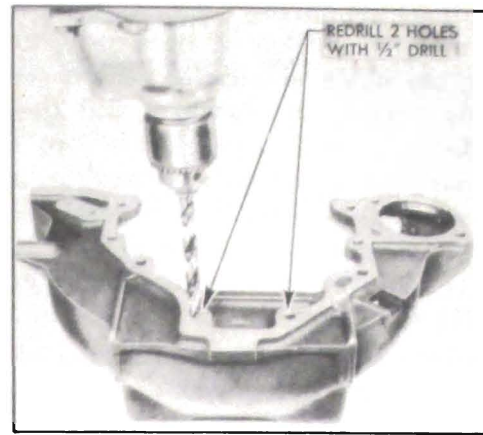

Figure 2-50—Enlarging Bolt Holes in Housing
2. Drill out the two upper bolt holes in flywheel housing and the four bolt holes in crankcase flange with a 1/2" drill. See figures 2-50 and 2-51.